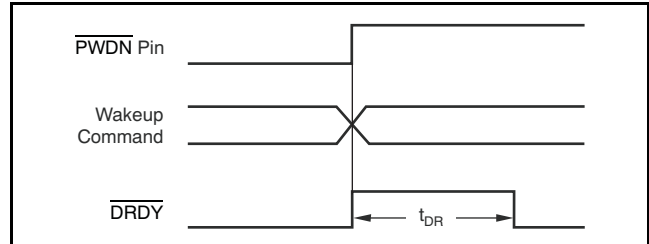

Figure 50. PWDN Pin and Wake-Up Command Timing (Table 12 Shows t_{DR})
In power-down, note that the device outputs remain active and the device inputs must not float. When the Standby command is sent, the SPI port and the configuration registers are kept active. Figure 50 and Table 12 show the timing.
(1) See Figure 50 and Table 12 for time to new data.